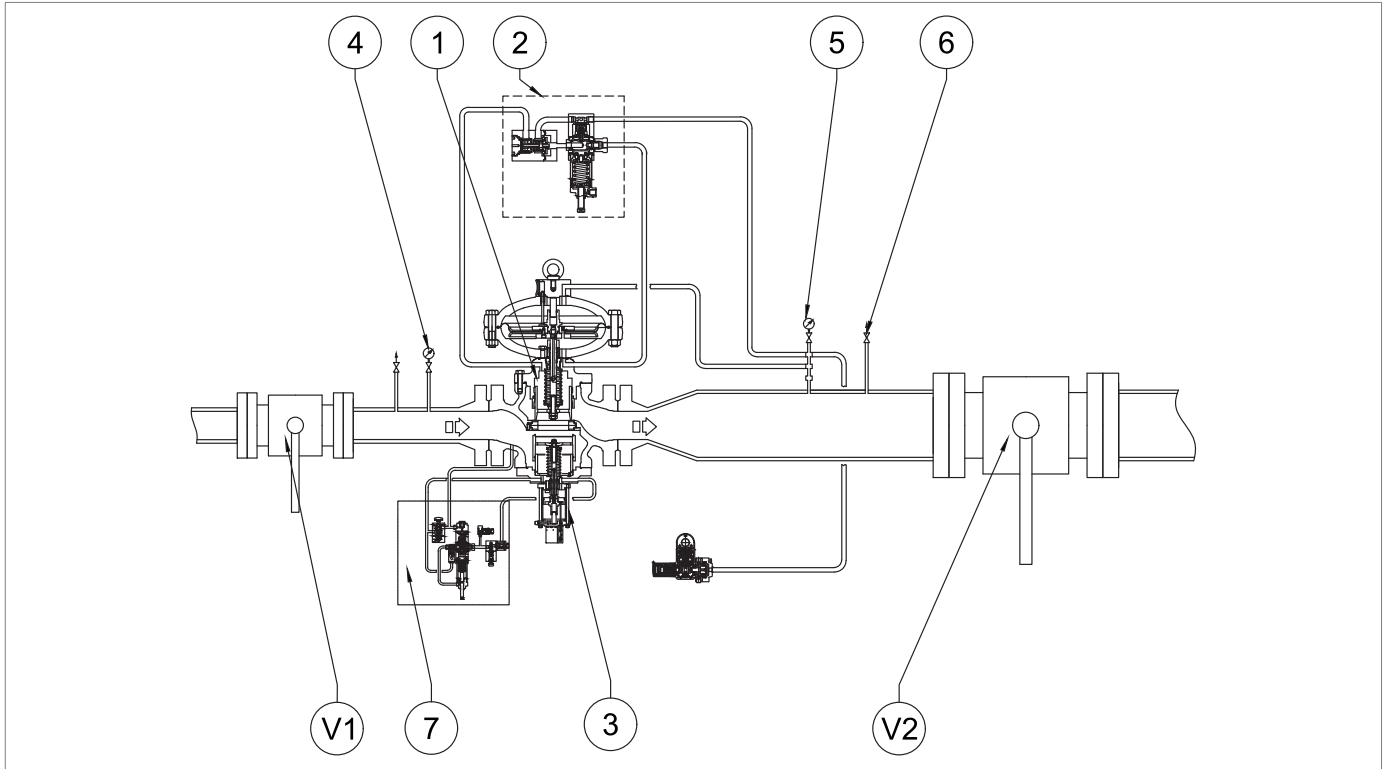

Fig. 8.34. Sealing of the HB/97 slam-shut valve when closing
For the following procedure, please refer to Fig. 8.34 at “8.9.1 - Checking the HB/97 incorporated slam-shut valve for sealing when closing”:
5	Slowly pressurise the control line by pressing the HP2/2 by-pass button (Fig. 8.34, ref 7.1) on the slam-shut valve, checking that the downstream pressure (Pd) indicated by the downstream pressure gauge (5) does not exceed the required calibration value by more than 50%.